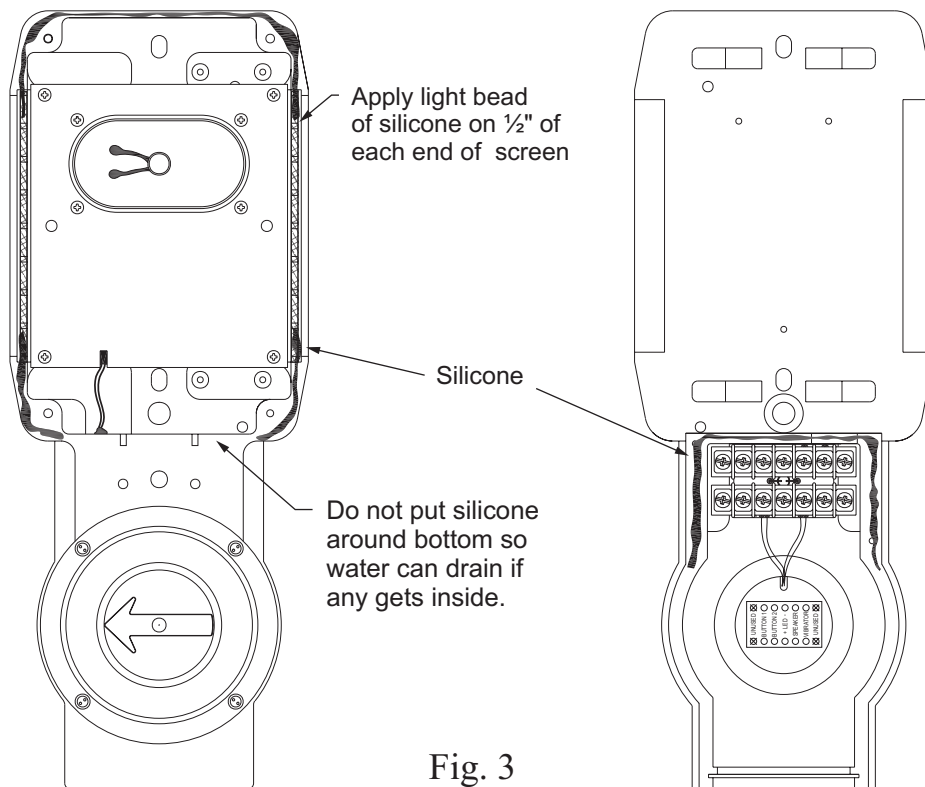

Fig. 3
- Silicone area as shown in Fig. 3 to prevent excessive water from entering the top of the unit between the sign and Navigator body. **This also eliminates vibration noises when the Navigator is playing sounds at high volume levels.**
Silicone two places as shown in Fig. 3. This eliminates vibration noises when the Navigator is playing sounds at high volume levels.